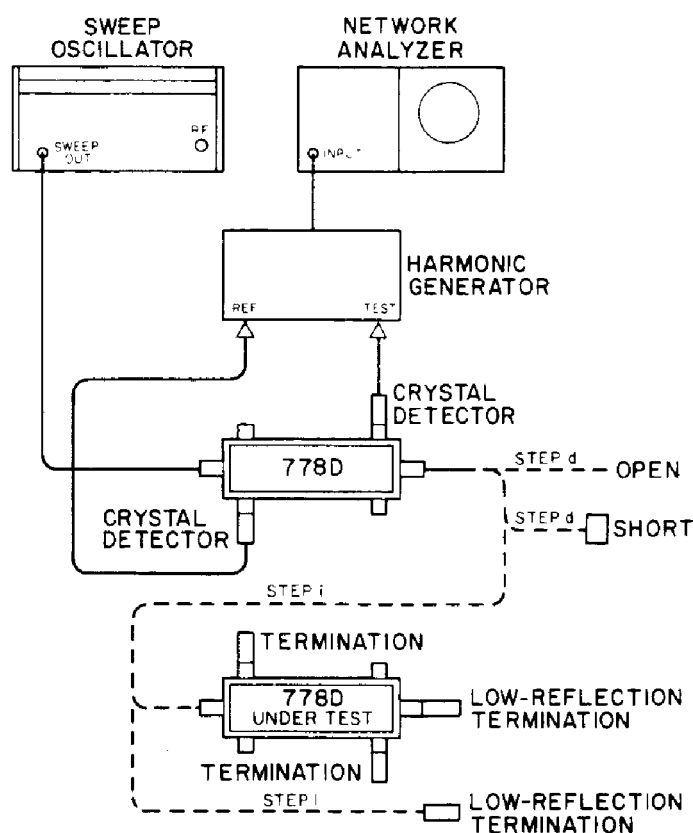

Figure 9 SWR Measurement Setup
1. Connect the equipment as shown in Figure 9.
9. Connect the mainline of the 778D under test in place of the termination shown in Figure 9. Terminate the mainline of the 778D under test with the best termination available. A poorer termination may be used to terminate the auxiliary arms.